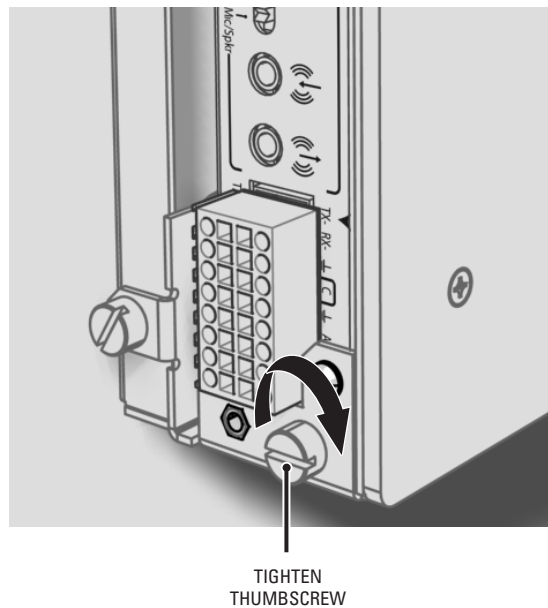

Figure 4. Tighten the Thumbscrew to Secure the Unit
3. Tighten the thumbscrew on the wall mount to secure the unit (refer to Figure 4).